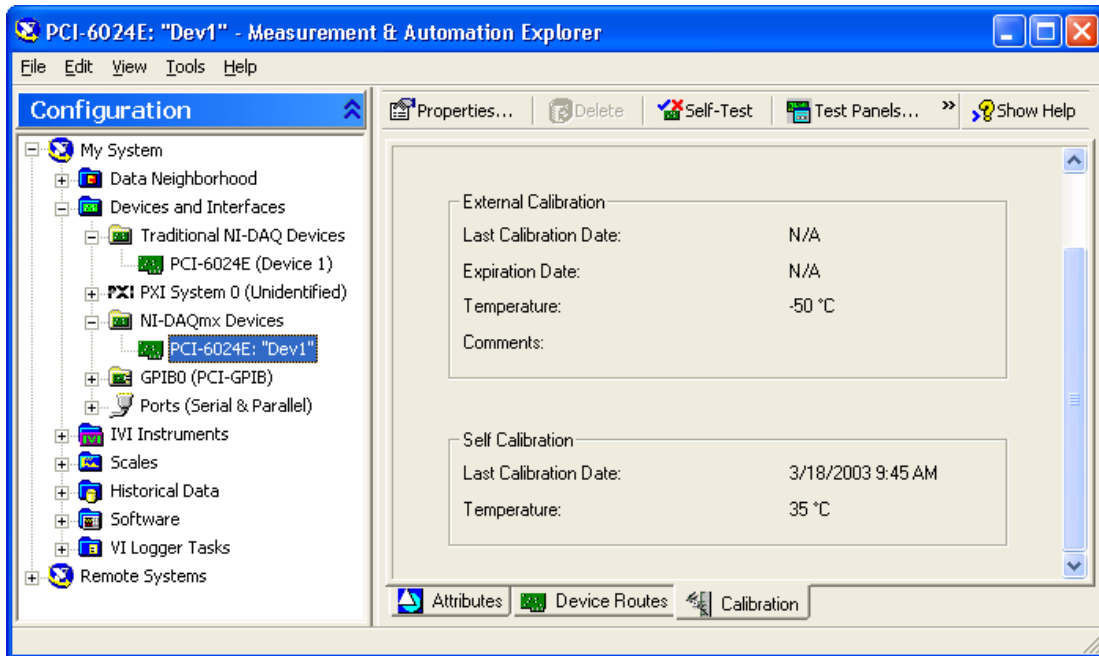

Figure 10.5
4. The Calibration (Figure 10.5) tab provides information about the last time the device was calibrated both internally and externally.